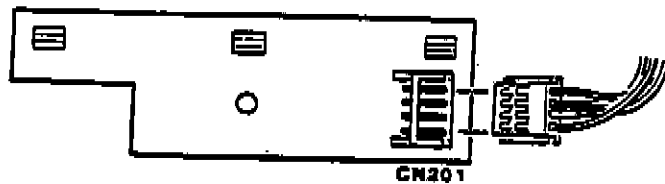

Figure 3-26. CN201 Connector
5. Use a small flat-blade screwdriver to disconnect the cable connector from CN201 on the LED assembly, as shown in Figure 3-26. Set the LED assembly aside.